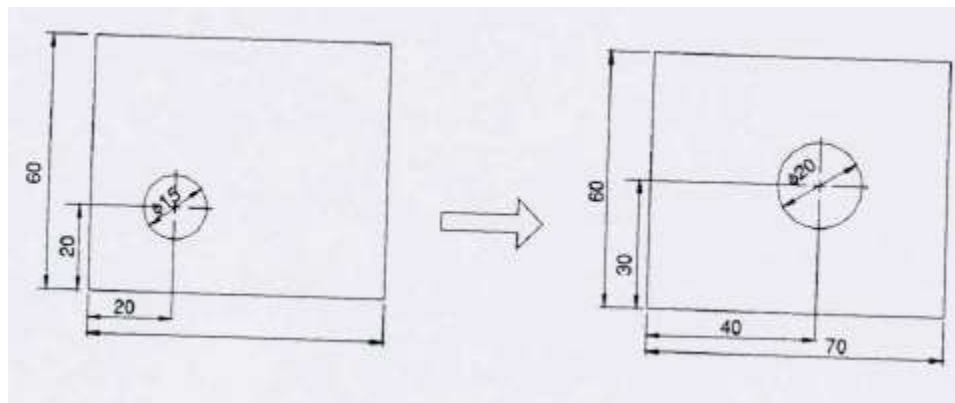

Figure 16: Modifying a shape by changing constraints.
4. Repeat steps 2 and 3, modifying the geometric constraints and/or dimensional data until the desired model is obtained. This step is illustrated in Figure 16.